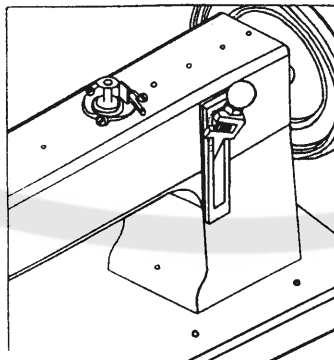

Fig.8
12. ADJUSTMENT OF STITCH LENGTH AND FORWARD/BACKWARD SEWING (Fig.8)